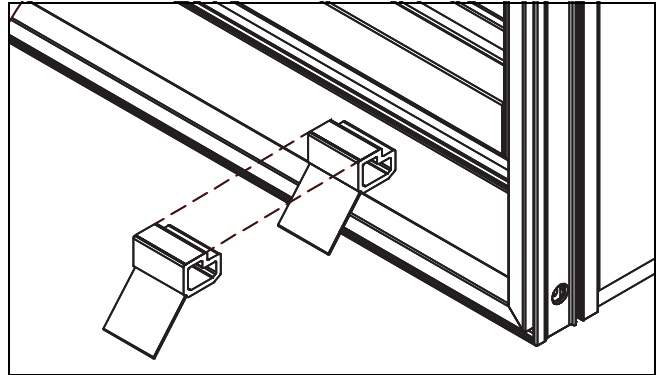

Figure 12
- On operating units, unlock and open the sash to remove shipping block(s). See figure 12.